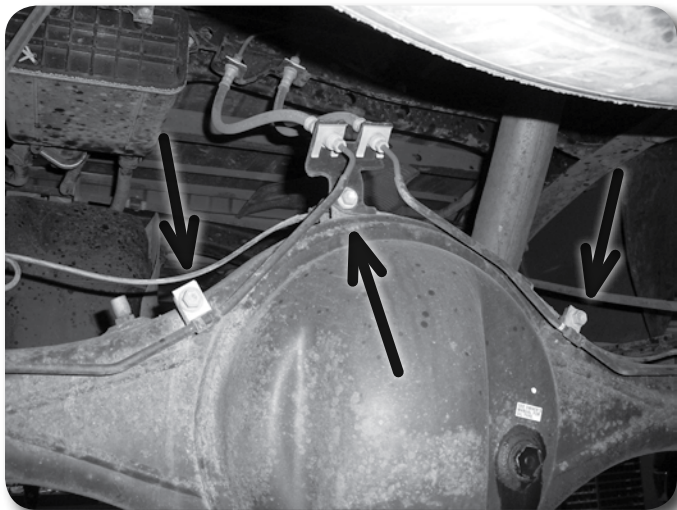
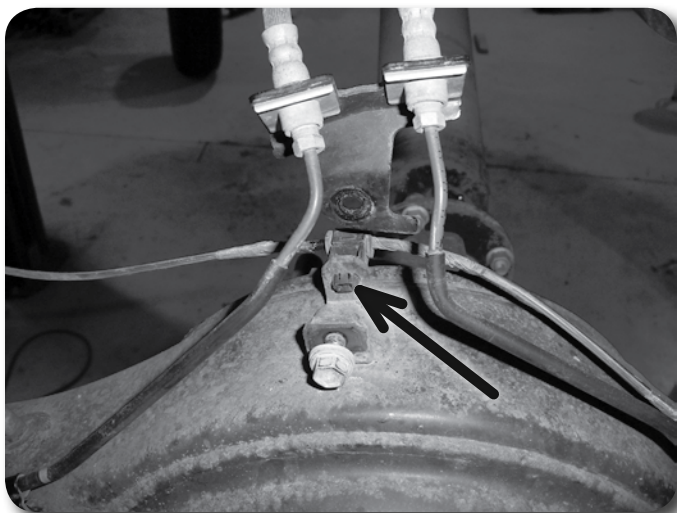

Figure 50
Figure 51
5. Disconnect the rear brake lines from the (3) mounting points at the center of the axle **Figure 50**. Save hardware and leave the factory clamps on the hard lines. Disconnect the plastic ABS line clip from the top of the differential **Figure 51**. Remove the plastic clip from the ABS line, it will not be reused.